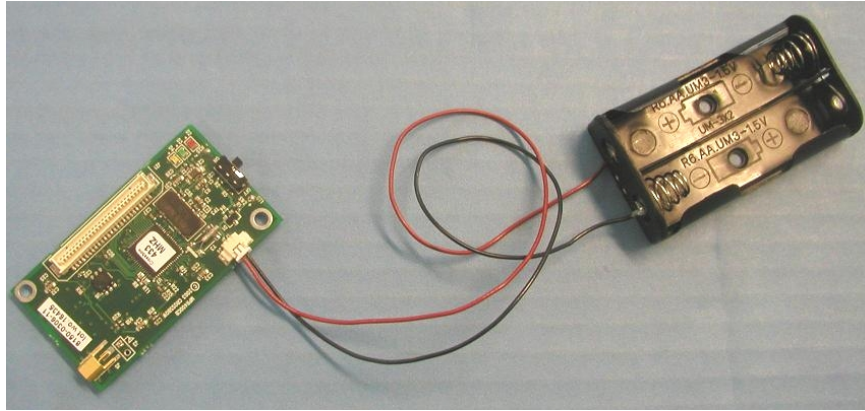

Figure 6-4. Photo of using the Molex connector to attach the AA battery pack. Photo courtesy of Nick Sitar, UC Berkeley, 2004.
2. The 2-pin Molex connector. Molex part number 53261-0290, Digi-Key part number WM1753-ND. (See Figure 6-4 below.)